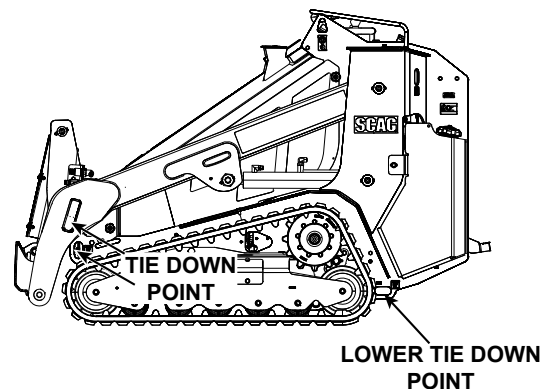

Figure 4-22. Tie Down Points
If the machine becomes stuck, pull the machine back into a stable position using either both front tie-down points or both lower rear tie-down points simultaneously. (See Figure 4-22, 4-23).
6. Pull the machine from the lower rear or front tie-down points (See Figure 4-22 & 4-23). Pull the machine at 1-2 mph. High speed towing will damage the machine.
9. Use the metal tie-down loops on the machine to securely fasten the machine to the trailer or truck with straps, chains, cable, or ropes. Refer to local regulations for tie-down requirements. See Figure 4-22, 4-23.